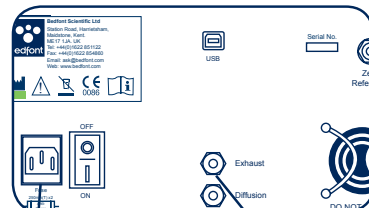

fig.16
2. Connect a USB cable from the USB port on the instrument to an available USB port on the PC. (fig. 16)